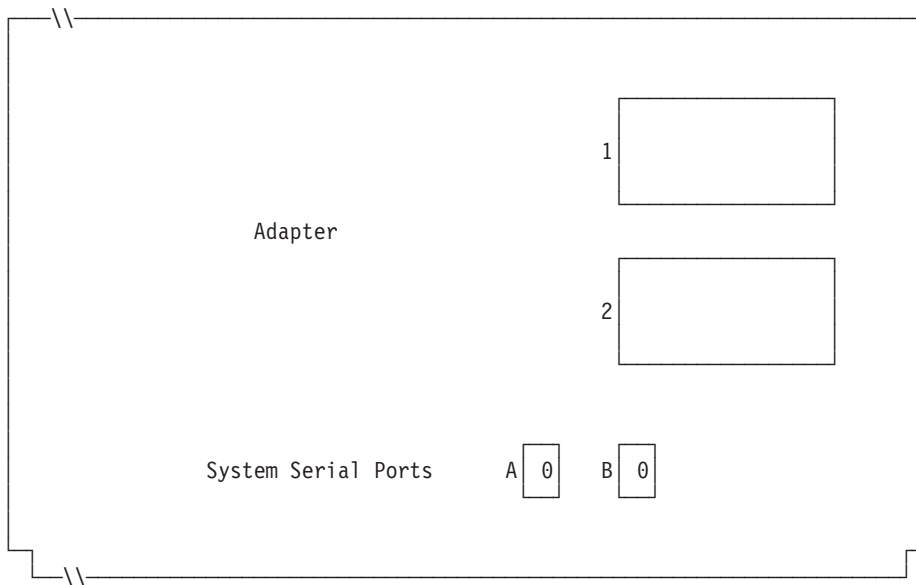

Figure 133. Right Side of Rear of 4694-3x7 Controller/Terminal
6. If terminal applications use the asynchronous port, write the port number on Figure 133. Use a 0 if the terminal does not use a port. Valid port numbers are 1, 2, 3, 4.